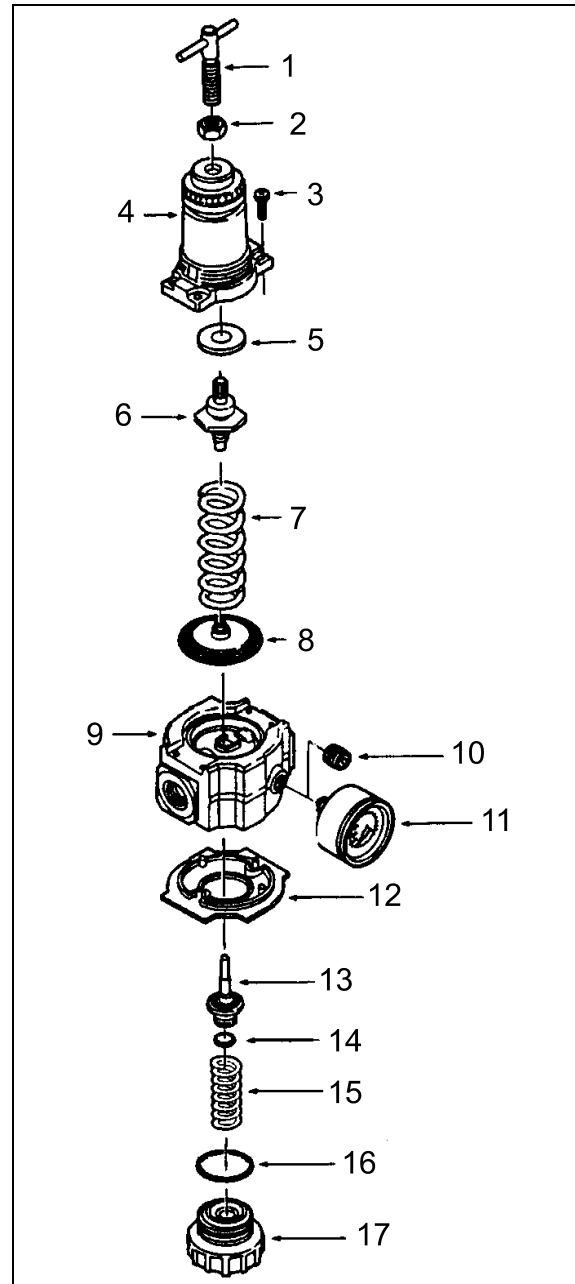

FIGURE 13: REGULATING VALVE
1. Before turning on system air pressure, release jam nut (2, Fig. 13) then turn regulator adjustment counterclockwise until all load is removed from the regulating spring.
5. Tighten jam nut (2, Fig. 13) to lock pressure setting.
1. Shut off inlet pressure and reduce pressure in inlet and outlet lines to zero. Turn regulator adjustment (1, Fig. 13) counterclockwise until all load is removed from regulating spring. Regulator can be disassembled without removal from air line.
1. Lubricate O-ring (14 and 16, Fig. 13), valve stem (13, Fig. 13), tip of adjusting screw (1, Fig. 13), and the outer circumference and both sides of the thrust washer (9, Fig. 13) with a light coat of good quality O-ring grease.